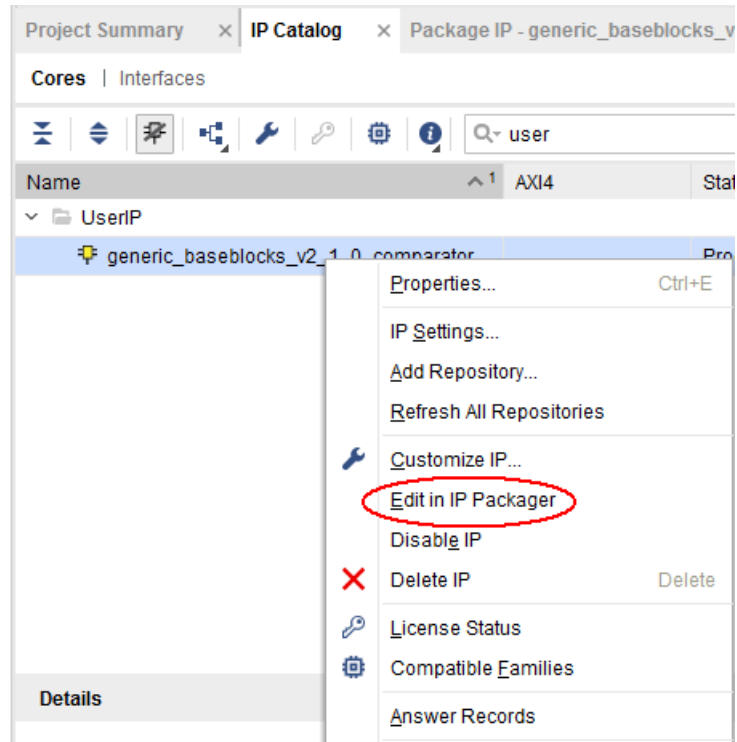

Figure 2-8: Edit in IP Packager Option
3. Right-click the custom IP you would like to edit, and select **Edit in IP Packager**, as shown in Figure 2-8.